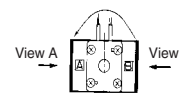

Fig. 5
4. Interchange piston cover gasket (5) and end cover gasket (6). (Fig. 5)